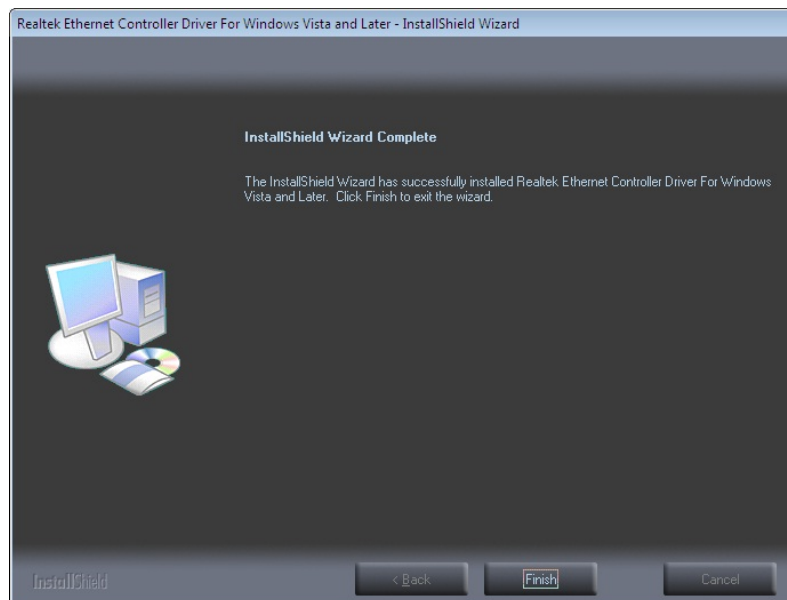

Figure 6-15: LAN Driver Installation Complete
Step 11: When the driver installation is complete, the screen in **Figure 6-15** appears.